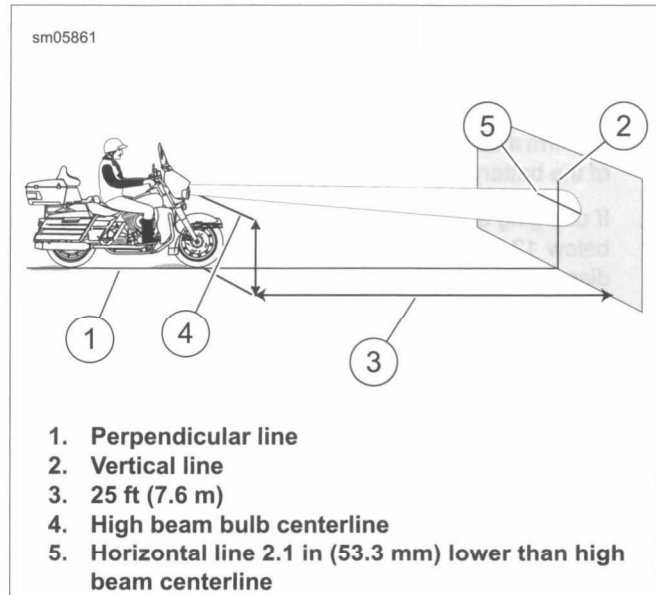

Figure 1-47. Headlamp Alignment: Quartz Halogen Type
4. See Figure 1-47. Park the motorcycle on a line (1) perpendicular to the wall.
6. Draw a vertical centerline (2) on the wall aligned with line (1).
7. With the motorcycle loaded, point the front wheel straight forward at wall. Measure the distance (4) from the floor to the bulb centerline:
8. Draw a horizontal line (5) through the vertical line:
- a. **Quartz halogen:** See Figure 1-47. 2.1 in (53.3 mm) lower than the measured distance.
- c. **LED, frame-mounted fairing:** See Figure 1-47. 2.1 in (53.3 mm) lower than the measured distance.